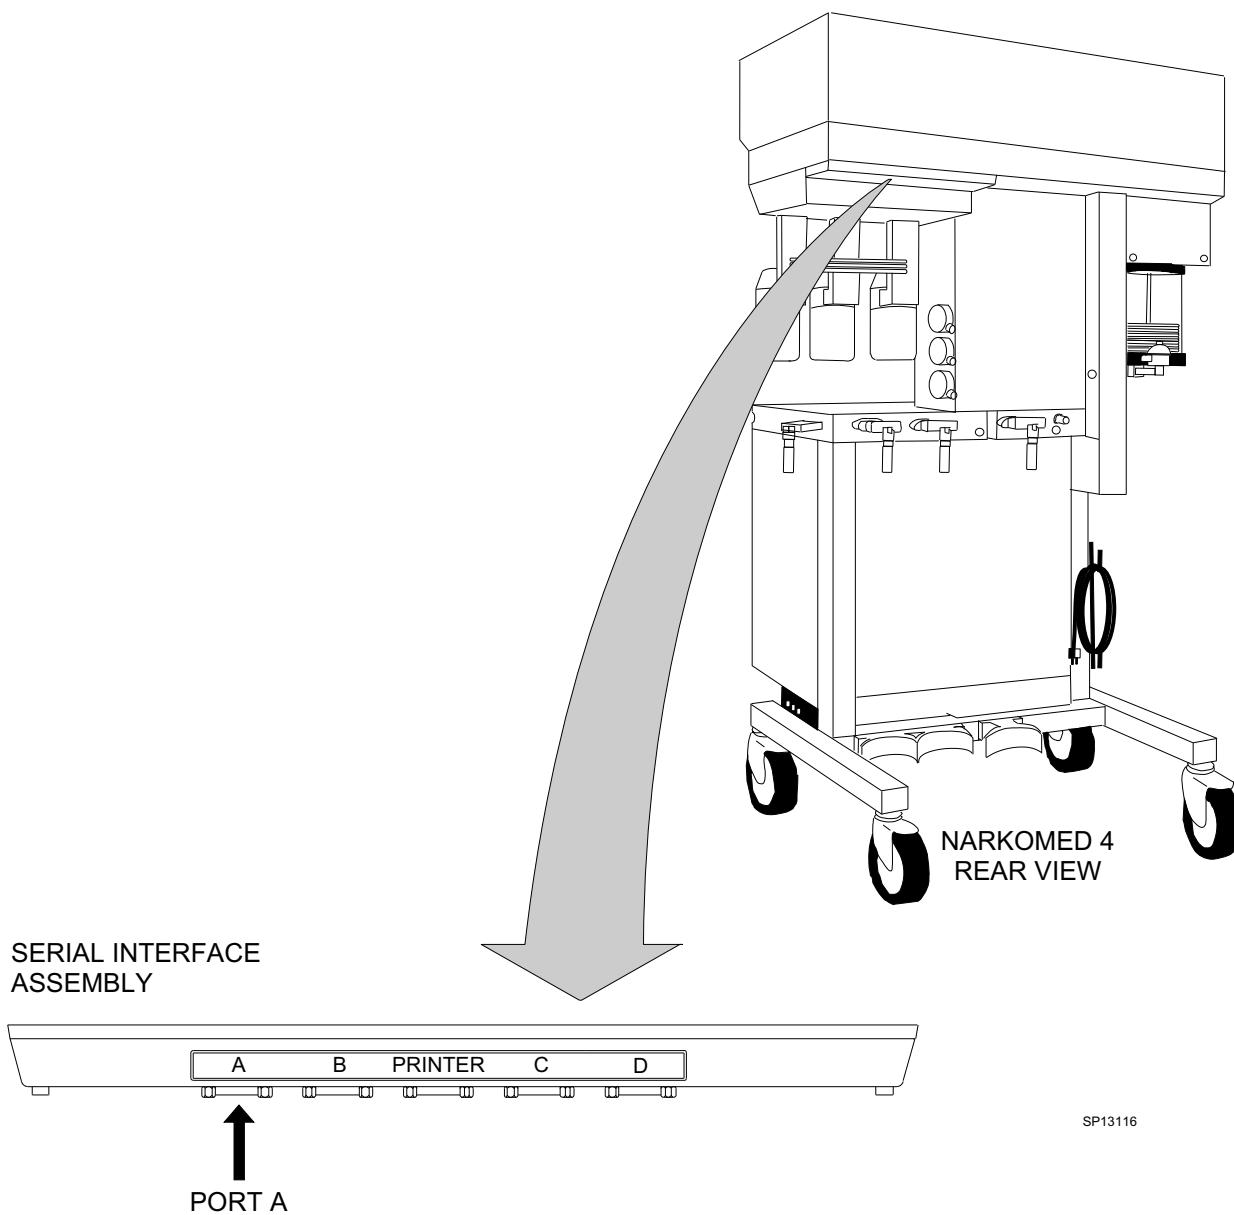

Figure 16: NARKOMED 4 EXTERNAL SOFTWARE LOAD INTERFACE CONNECTION
4. Connect the appropriate interface cable (9-pin or 25-pin) to COM 1 on the PC, and connect the other end of the cable to the NM4 serial interface Port A as shown in Figure 16.